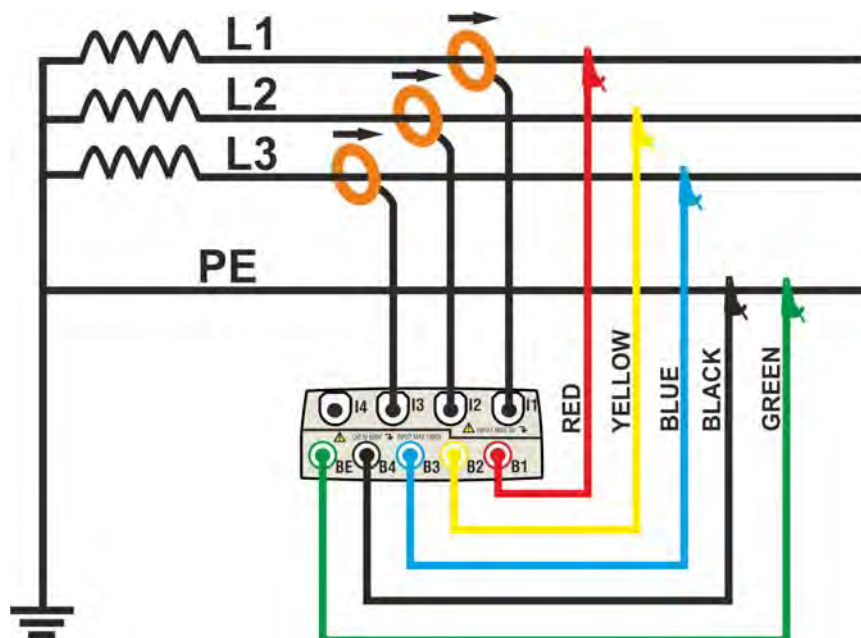

Fig. 135: Meter connection in a three phase 3WIRE system – ENG\_UK type
2. Connect voltage test leads on Phases L1, L2, L3, and Ground cables respecting the colours as shown in Fig. 135. **Verify the result “123” at display relative to a correct phase sequence indication** (see § 5.2.1) and perform the corrections if necessary.
3. Connect the transducer current clamps on Phase L1, L2, L3 cables as shown in Fig. 135 respecting the clamp's arrow direction indicating the current standard sequence from generator to load. **On Real Time Values' section screens always verify the positive value of Active Power and the power factor relative to load which should be normally inductive** before starting a recording. Reverse the clamp by 180 degrees on cables in case of negative readings.